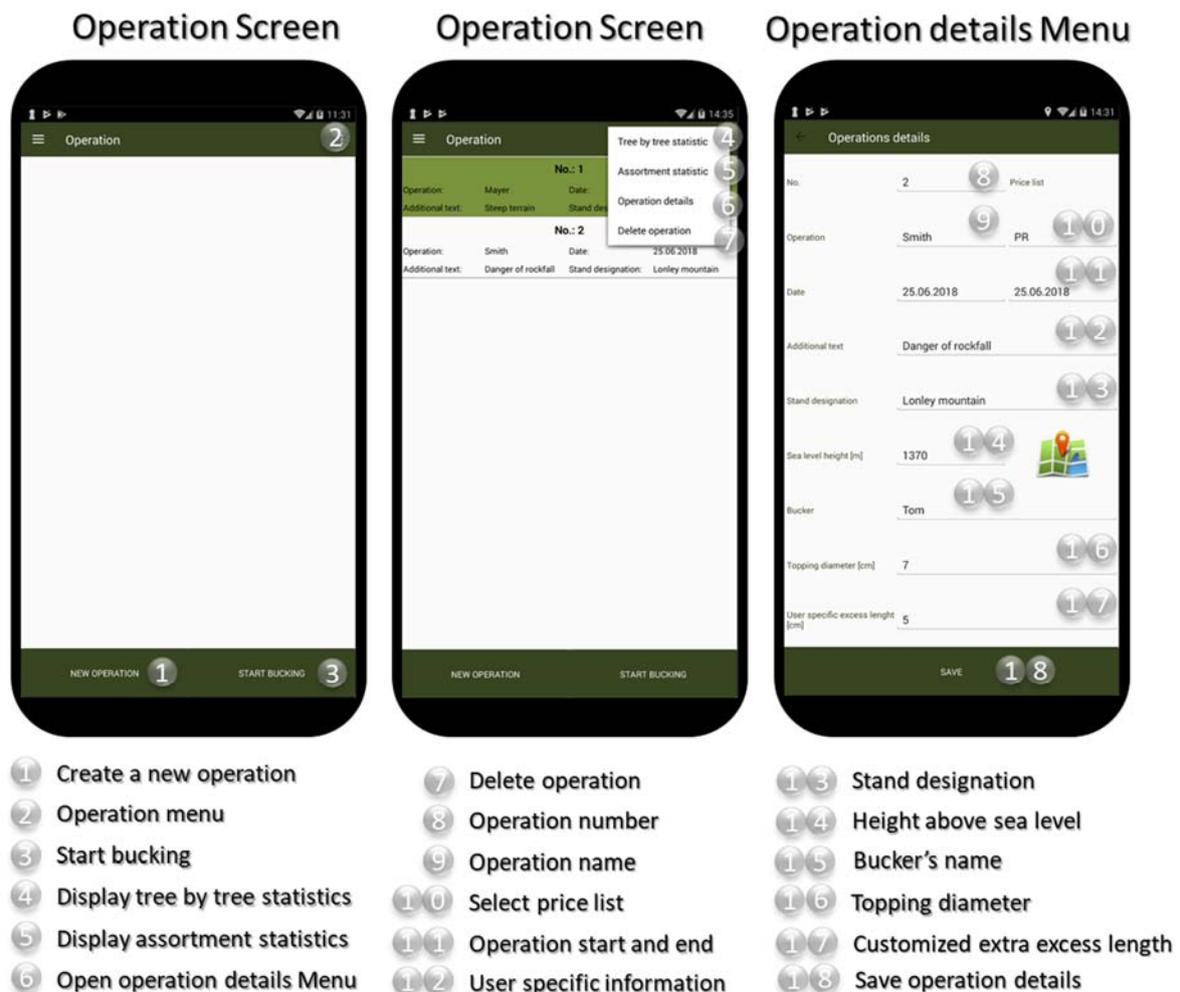

Figure 4: Functionality of Operation and Operation details Screen.
In the **Operation details Menu** (Figure 4) operations are numbered subsequently (**No.**) and **operation start** (first tree bucked) and **end dates** (last tree bucked so far) are recorded and updated. Further, **geographical location** and **height above sea level** (mandatory) are either entered manually or can be retrieved from the mobile devices GPS-unit on-site. Further, additional information can be added (**operation name, user-specific information, stand designation, bucker's name**). Finally, the desired **price list** intended to use for this operation has to be selected from the dropdown menu. All input is saved via the **"Save"** button at the bottom.
By selecting an operation and pressing "**Start bucking**" on the bottom-left of the **Operation Screen** (Figure 4, the **Tree Parameter Screen** (Figure 5) opens and data for the first tree can be entered. Data input starts with selecting the **Tree Species** (SP) from the dropdown menu. German language abbreviations are used for the species and correspond to English language species names as displayed in Tab 1. The next input parameter is the **diameter at breast height** (DBH, cm rounded down to the next integer) which is measured on the standing tree at 1.30 m on the upslope side of the tree.
The **Bucking Screen** (Figure 7) shows two different visualisations of the tree, with the felling cut side at the bottom of the screen and the tree top side on it's top. On the left-hand side, the **Quality visualisation** displays the succession of assortment qualities, where assortments of the same quality are coloured alike. On the right-hand side, the **Length visualisation** displays the assortments and the cutting points in meters from the felling cut. In the middle, assortment **Volume, Revenue and Assortment length** are displayed. If the user has finished bucking the tree according to the selected scheme, bucking is finalised by pressing the **"Finish bucking"** button at the bottom left and the bucking scheme is saved to the operation statistics. If the user wishes to alter the bucking scheme during bucking, she / he has to proceed via the **"Correct scheme"** button at the bottom right. After pressing the **"Finish bucking"** button, the user is asked whether to proceed with the next tree or to end bucking and return to the **Operation Screen** (Figure 4).
From the **Operation Screen** (Figure 4), the **Tree By Tree Statistic Screen** (Figure 8) can be accessed for the selected operation via the “**Tree by tree statistic**” button in the top right menu. The top table (**Tree Details**) contains line by line all trees saved to the operation, successively numbered. The columns include **Species (SP)**, **DBH**, **Tree height** (in m), **Volume without bark (V, in m3 per tree)** and **Revenue (R, in € per tree)**. By selecting a tree, the respective assortments from this tree are displayed at the bottom in a similar format as for the **Optimized Bucking Scheme Screen** or the **Customized Bucking Scheme Screen**. Individual trees can be selected and deleted via the “Delete tree” button in the top right menu. From the **Operation Screen** (Figure 4), the **Assortment statistic Screen** (Figure 8) can be accessed for the selected operation via the “**Assortment statistic**” button in the top right menu. The table summarizes line by line all similar assortments defined by **Species (SP)**, **Nominal length (L)**, **Quality (Q)** and **Diameter class (DC)**. For each assortment, the **Cumulated numbers, Volumes and Revenues** are presented. To return to the **Operation Screen**, the “Return” button at the bottom left is used.